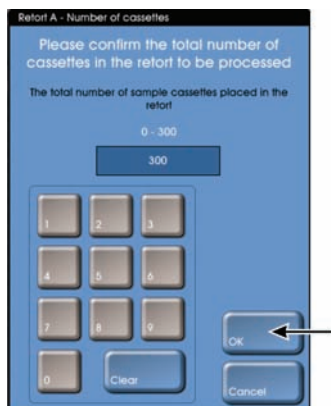

Figure 79: Number of cassettes dialog box with OK button
6. If prompted, enter the new number of cassettes in the "Number of cassettes" dialog box and select **OK** when done (see Figure 79).